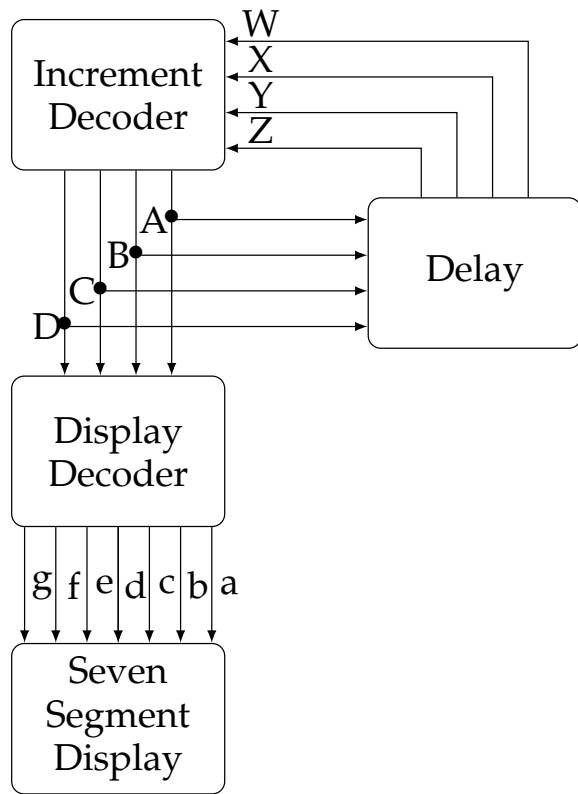

Fig. 3.1.1: Block diagram of the decade counter.
3.1. Using Fig. 3.1.1 and modifying the code in Problem 2.3, design the decade counter.